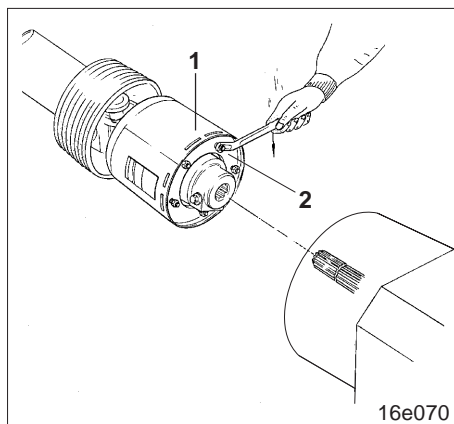

Fig. 19.15
The friction clutch EK 96/4 (Fig. 19.15/1) prevents damage to the gear components caused by stones or other objects that are caught between the tines. **For this reason, the friction clutch must always function correctly.**
2. Tighten all hex nuts (Fig. 19.15/2) completely. This will relieve the strain placed on the friction discs.
5. Turn back all hex. nuts (Fig. 19.15/2) until there is a distance of approx. 5 mm between the nuts and the clutch.